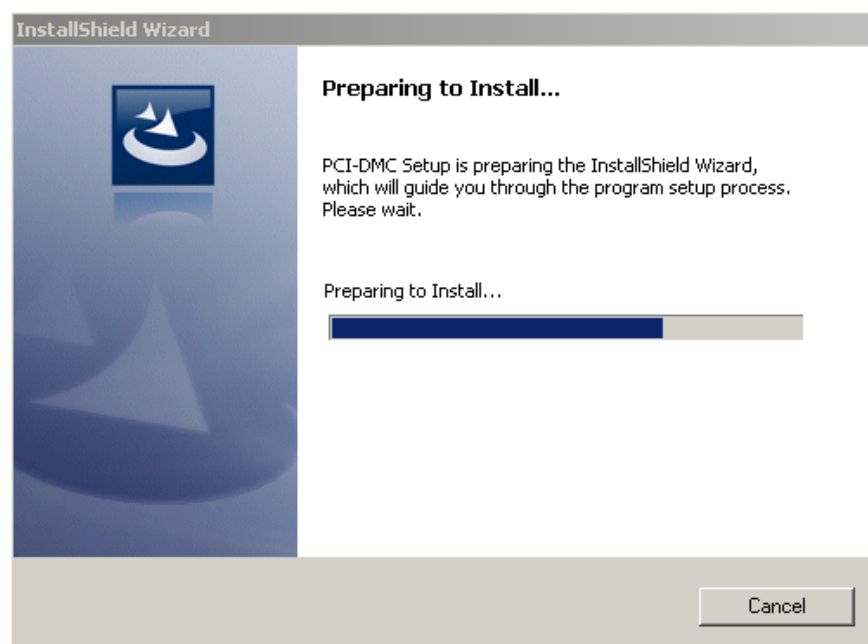

Figure 2.14
Step 2: As shown in Figure 2.14, the system program will start by checking the system resources.